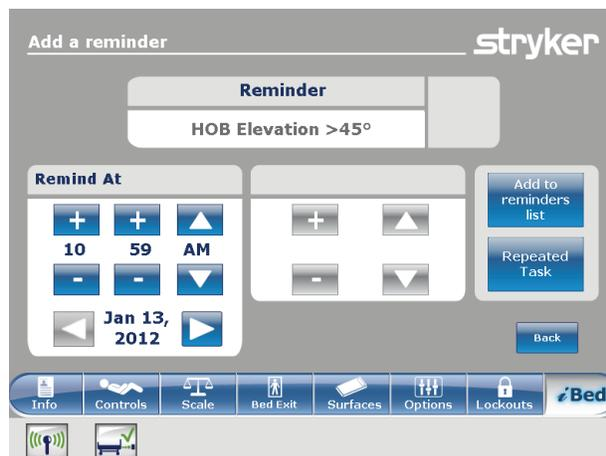

Figure 103: Setting a one-time reminder
4. Set the desired date and time of the reminder (Figure 103 on page 92).
To return to the **Reminder** screen, tap **Back** (Figure 103 on page 92).
5. Tap **Repeated Task** (Figure 103 on page 92).